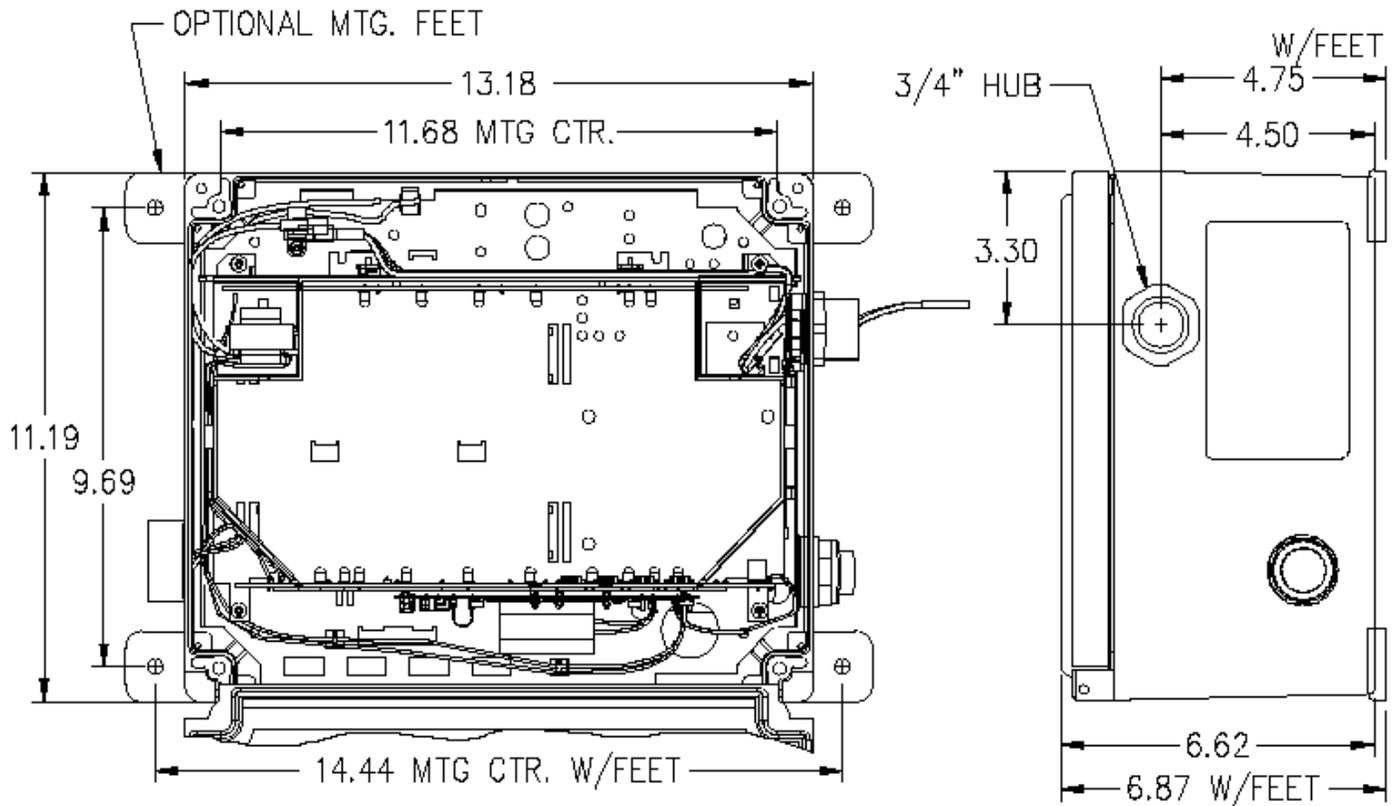

FIGURE 3
1. Mount exit enclosure to wall using (4) thru holes or optional mounting feet. (See Figure 3).